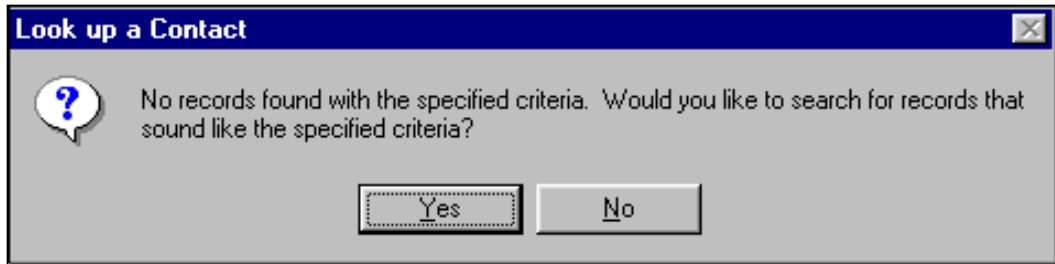

Figure B-4: Search for Similar Records Dialog Box
- The Search for Similar Records dialog box is displayed (Figure B-4).